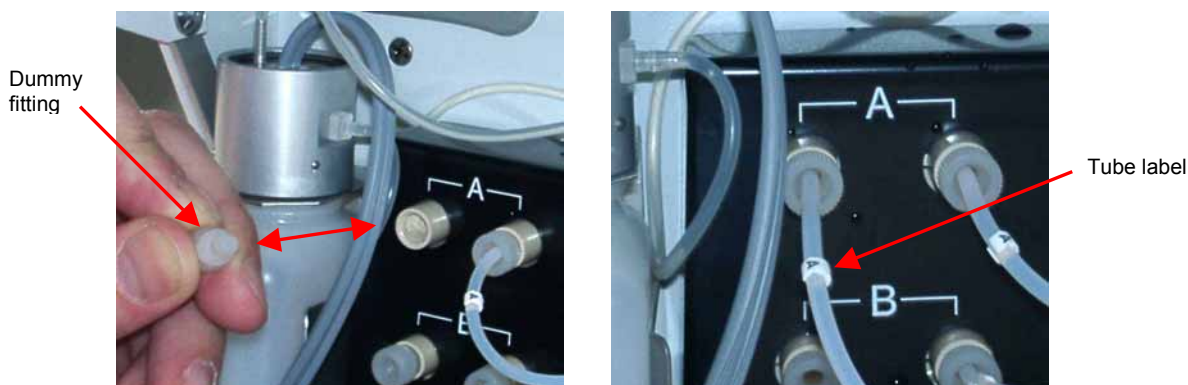
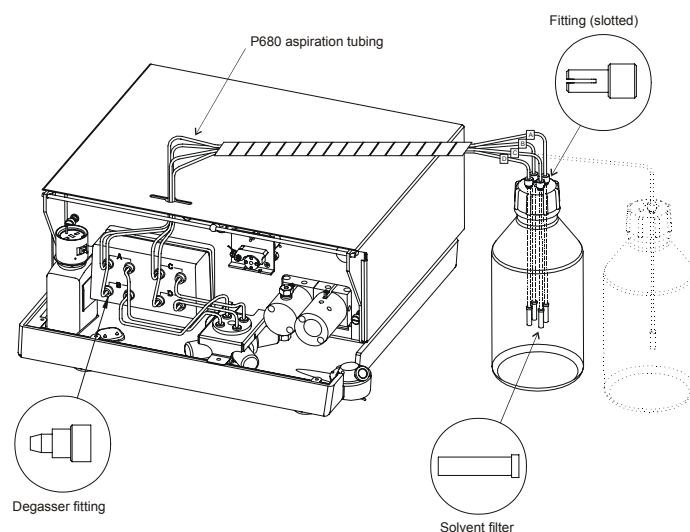

Fig. 15: Connecting the solvent reservoir (P680A LPG-4 pump)
Fig. 16: P680A LPG-4 pump with solvent rack connection
- For the **P680A LPG-4** pump, connect the solvent lines to the associated connection ports on the degassing module (A-D). Remove the dummy fitting from the degasser inlet and connect the line with the corresponding label (→ Fig. 15 and Fig. 16).